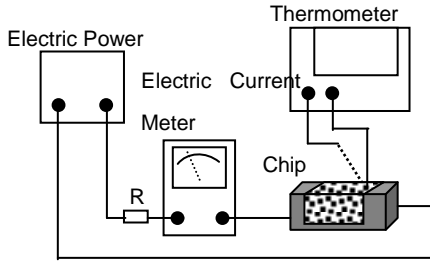

Fig. 5.3.3-1
- d. Definition of Rated Current (Ir): Ir is direct electric current as chip surface temperature rose just 20°C against chip initial surface temperature (Ta) (see **Fig. 5.3.3-2**)